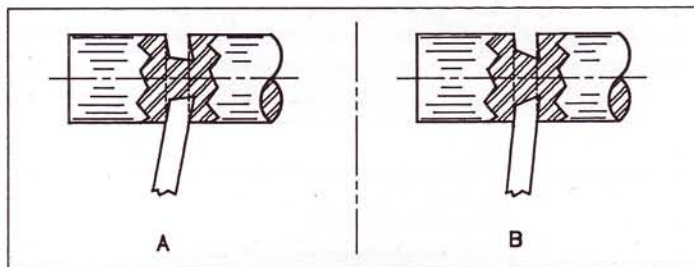

FIG. 2
1. Concave and convex surfaces on the piece cut off, caused by (a) holder set out of square with spindle, as shown by sketch "A" in (Fig. 2); (b) too great a front lead angle on blade, illustrated by sketch "B", (Fig. 2); (c) excessive blade extension; (d) end play in spindle, and (e) too narrow a blade.